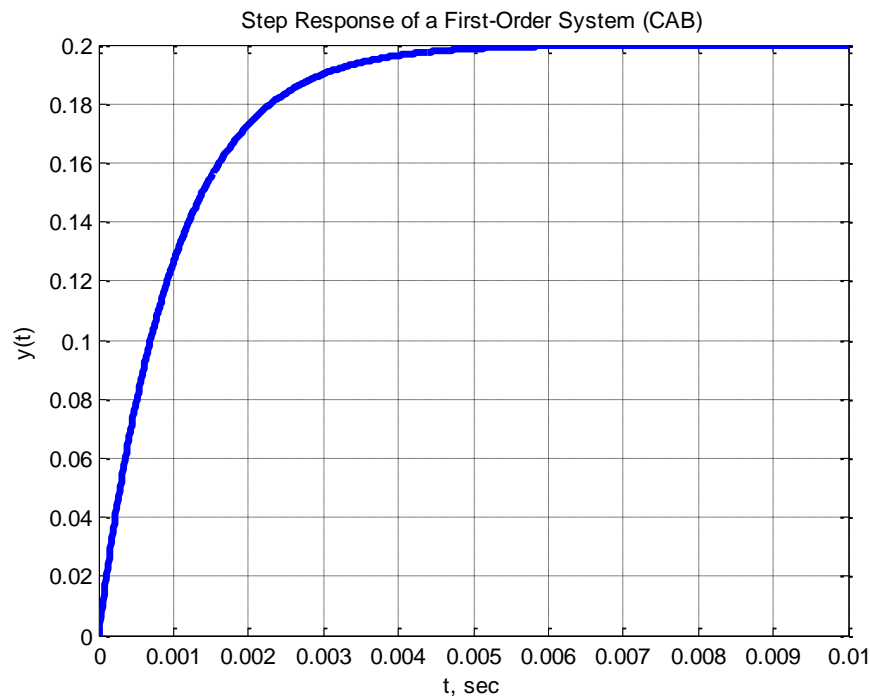

Figure 2: Step Response of a First-Order System
10. Finally, create a plot of the output  $y(t)$  as a function of time, it should be similar to Figure 2. If you don't recall how to do this, please type `help plot` in the MATLAB command window. Make sure that your plot has a title with your initials and the axis labeled.